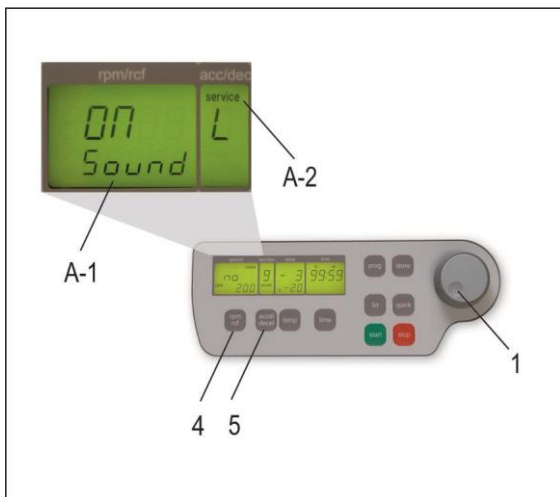

Figure 6
Proceed as illustrated, under point 1.8.1, to enter this program mode, press the key; "accel/decel" (5). In the display, "accel/decel" (A-2) flashes the word, "service". Select the letter, "L" with the adjustable knob (1). As a result, appearing in the display "rpm/rcf" (A-1), are the words, "On Sound". By pressing the key, "rpm/rcf" (4), the word "On" flashes, and the sound can be switched off with the adjustable knob (1), (see Figure 6).